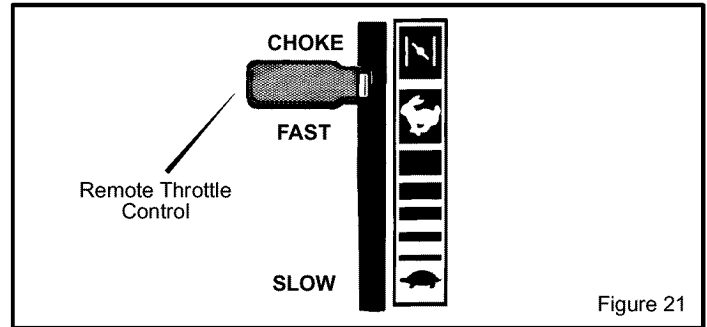

Figure 21
1. Move the **remote throttle control** to the FAST position (see Figure 21).
2. With engine running, put the **remote throttle control** in SLOW position (see Figure 21).